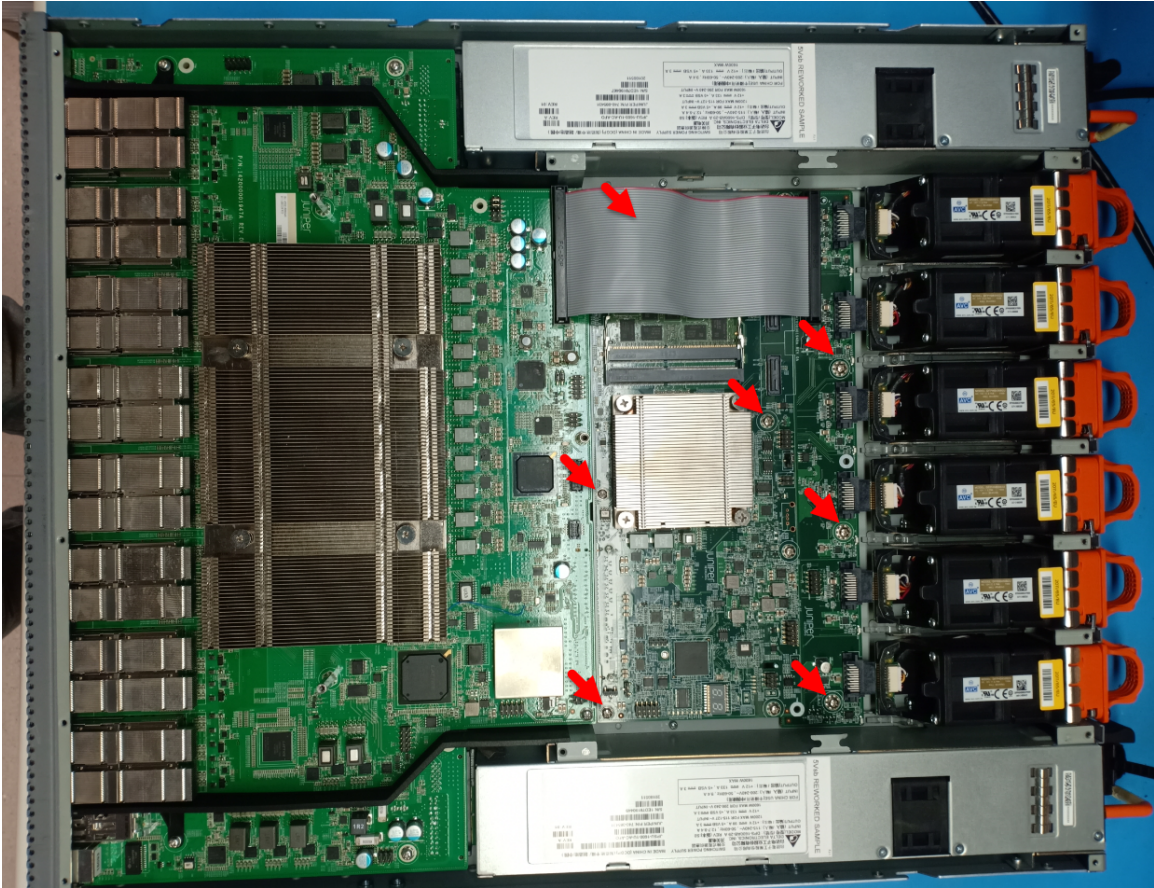

Figure 3-4: CPU board removal
6. Remove the CPU board by removing the ribbon cable and all screws as shown in Figure 3-4 then hold on both sides of the CPU board and slide forward a bit to separate it from the Main board.